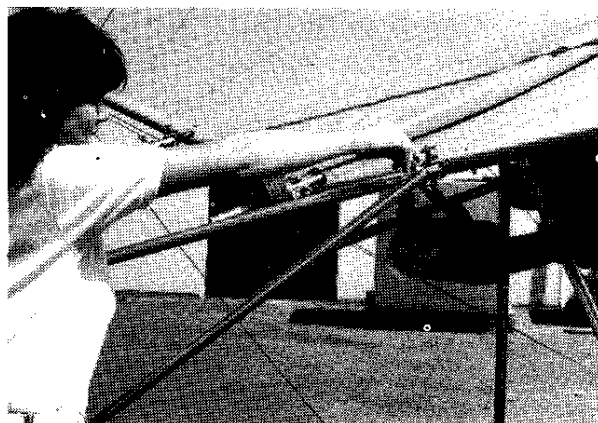

Figure 2.37
43. Attach right and left tail brace tubes to 1" channels on tail boom tubes using (2) 1/4" dia. T-handle pins, and safety rings. **Figure 2.37**